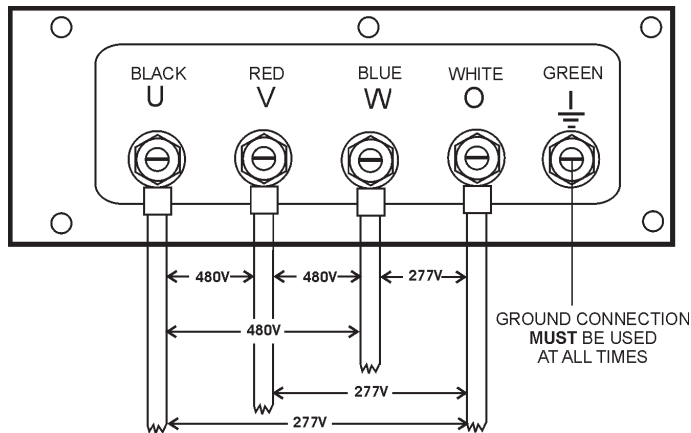

Figure 27. Output Terminal Lugs 3Ø-480/277V Connections
2. Connect the load wires to the **Output Terminal Lugs** as shown in Figure 27.